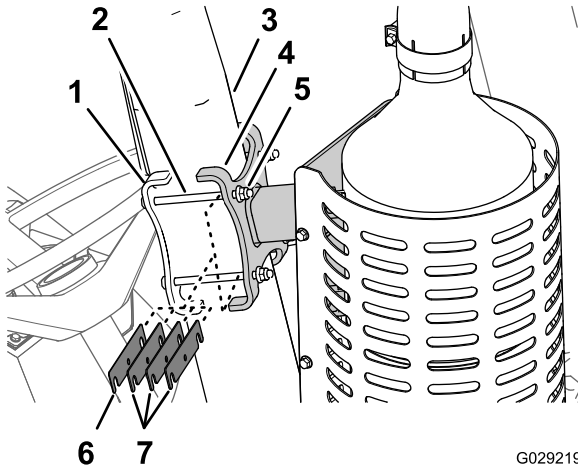

Figure 17
- Align the exhaust-system mount to the front, right ROPS tube (Figure 17).
- Loosely assemble the rear mounting plate to the exhaust-system mount (Figure 17) with the 4 flange-head bolts (8 x 120 mm) and 4 flange locknuts (8 mm) that you removed in step 3 of 3 Removing the Exhaust System (page 4).
- Check the gap between the exhaust-system mount and the ROPS tube (Figure 17).
- A. Loosen the flange-head bolts and flange locknuts that secure the exhaust-system mount to the ROPS tube (Figure 17).